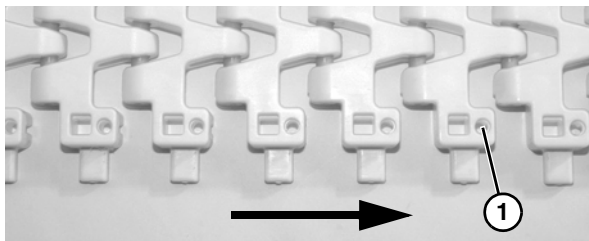

Figure 22
Ensure the belt is running in the correct direction, with hole (Figure 22, item 1) towards conveyor motor.